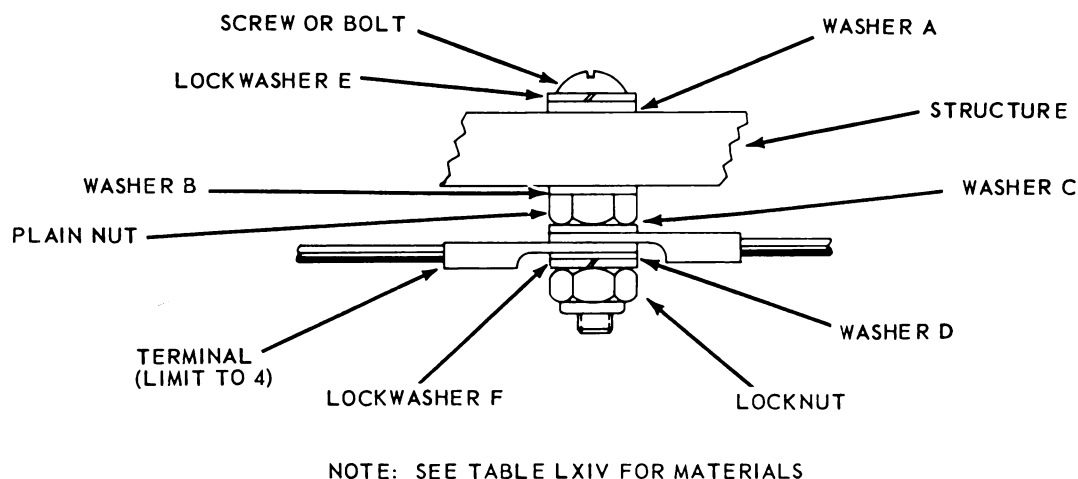

Figure 7-1. Stud Bonding or Grounding to Flat Surface
7-10. SELECTION OF NUTS. Use AN nuts, either plain or self-locking where indicated in Figures 7-1 and 7-3. Use an *all-metal* self-locking nut if practicable. Always use an all-metal self-locking nut where current is, or will be present. Where installation conditions require, use an AN nut-plate, riveted to structure.
(Refer to Figure 7-1)
7-11. SELECTION OF WASHERS. Use AN plain washers and split lockwashers where indicated in Figures 7-1, 7-2 and 7-3. Always use split lockwashers with nuts, either plain or self-locking. With aluminum terminals use a plain washer of at least the diameter of the terminal tongue, next to the aluminum terminal. If an AN washer does not meet this requirement, use a washer of the SAE heavy series, or a special washer made for this application.
a. Stud connection: (See Figure 7-1 and Table LXIV) In this type of connection a bolt or screw is locked securely to structure, thus becoming in effect a stud. Grounding or bonding jumpers can be removed or added to the shank of stud without removing stud from structure.